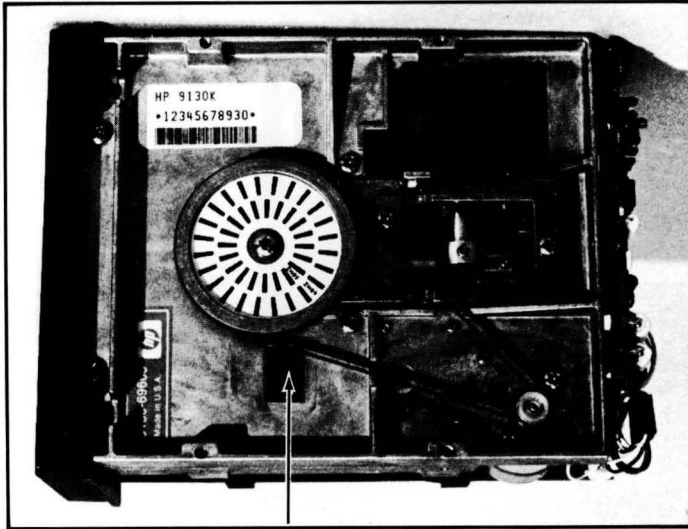

Figure 5-7. Index Detector Retaining Screw
- b. Place drive on its side as in section V (see fig. 5-7).
i. Loosen the index detector retaining screw (see fig. 5-7) and move the detector until the INDEX to DATA burst time is approximately 400 us +/- 300 us for side 0.